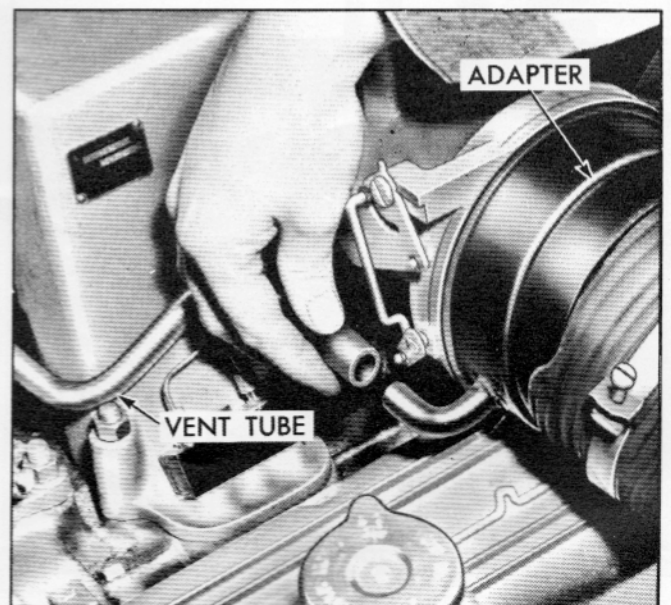

Fig. 30—Disconnecting Main Diaphragm Vent Tube
2. Loosen clamp retaining air cleaner flexible hose to air meter (fig. 29), slide hose from adapter, leaving it attached to air cleaner. Disconnect main control diaphragm vent tube at adapter (fig. 30).